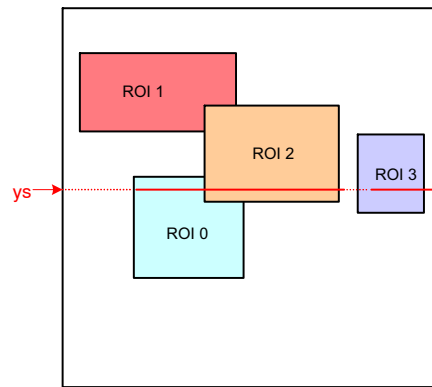

Figure 27. Scanning the Image Array with Four Windows
Figure 27 illustrates a practical example of a configuration with four windows. The current position of the read pointer ( $y_s$ ) is indicated by a red line crossing the image array. For this position of the read pointer, three windows need to be read out. The initial start position for the  $x$ -kernel pointer is the  $x$ -start configuration of ROI0. Kernels are scanned up to the ROI2  $x$ -end position. From there, the  $x$ -pointer jumps to the next window, which is ROI3 in this illustration. When reaching ROI3's  $x$ -end position, the read pointer is incremented to the next line and  $x_s$  is reinitialized to the starting position of ROI0.
- The read pointer is not necessarily incremented by one, but depending on the configuration, it can jump in  $y$ -direction. In Figure 27, this is the case when reaching the end of ROI0 where the read pointer jumps to the  $y$ -start position of ROI1